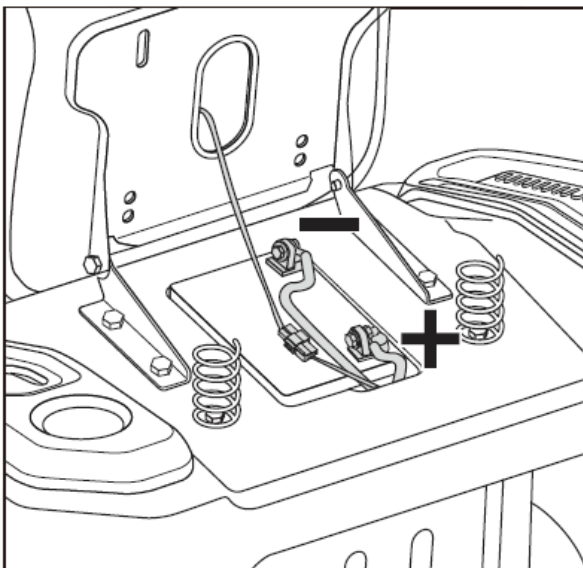

Fig.30
2. Disconnect the **NEGATIVE** (-) cables from the battery first. (Fig. 30)